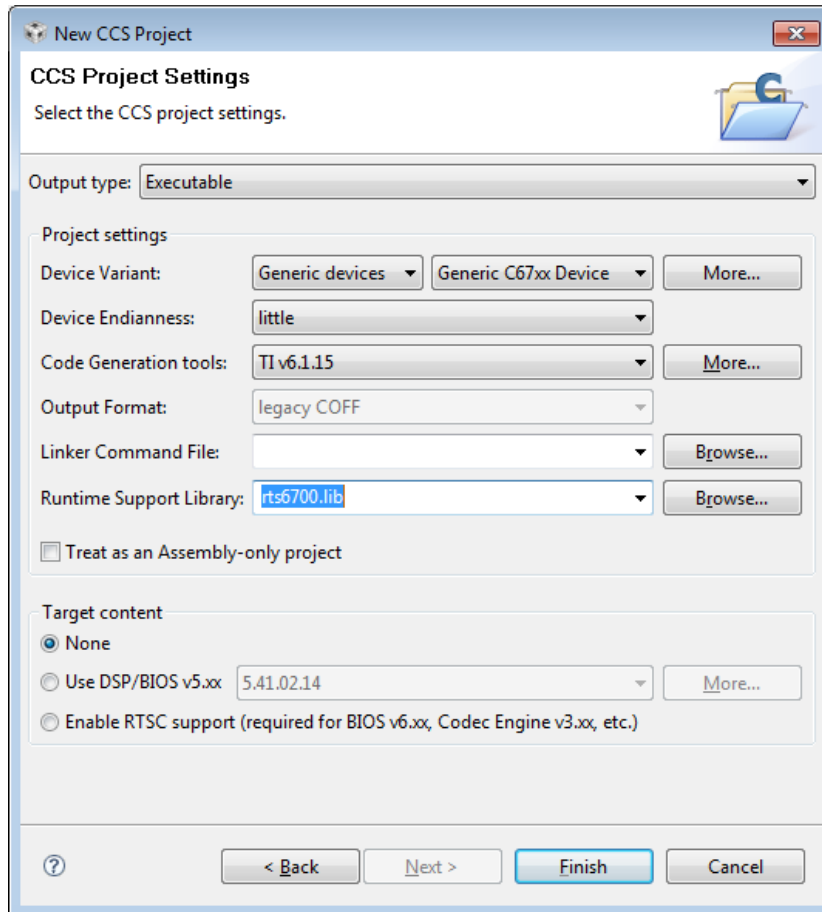

Figure 3: Final dialogue to set up project
- Hit **Next** twice (i.e. ignore the dialogue regarding **Additional Project Settings**.) Set up the dialogue as shown in figure 3: